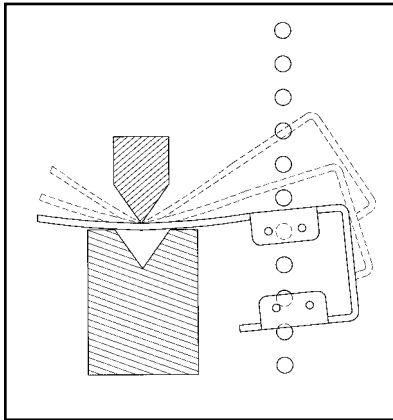

Figure 2. Floating blanking
*Floating blanking* is the “blinding” of one or groups of two adjacent sensing beams, which will appear to change position (“float”) in order to allow multiple objects (usually workpiece material) to move through the defined area, at any point, without tripping the final switching device relays of the MINI-SCREEN System. *With floating blanking ON, any and every one- or two-beam blockage(s) will be ignored.* See Figure 2.